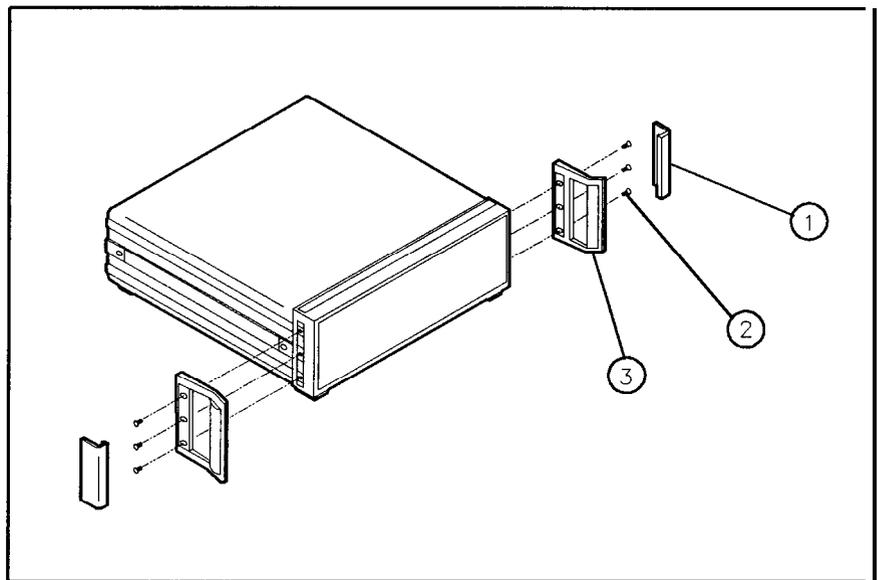

Figure 2-8. Removing the Handles and Trim
3. Remove the front-handle trim from each side of the RF and IF-Display sections. See ① of Figure 2-8.